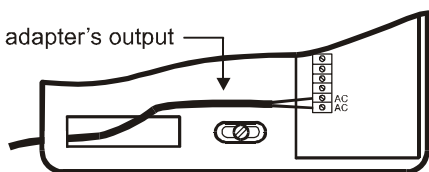

Fig. 3 15VAC adapter connection
- Route the adapter's output cable (15VAC) to the control panel and connect it to the panel's terminals marked AC (see fig. 3.) – arbitrary polarity. **Do not plug the AC adapter into the wall yet.**